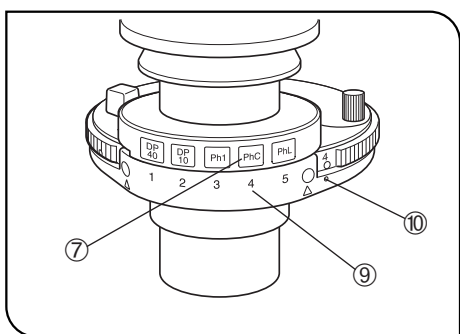

Fig. 49
6. Place the index ⑦ provided with each optical element in the index insertion hole having the same number ⑧ as the number of the position ⑧ in which the corresponding optical element is mounted. (Figs. 49 & 50)
⊙ The optical element with the number indicated by marking • ⑩ is engaged in the light path. (Fig. 49)